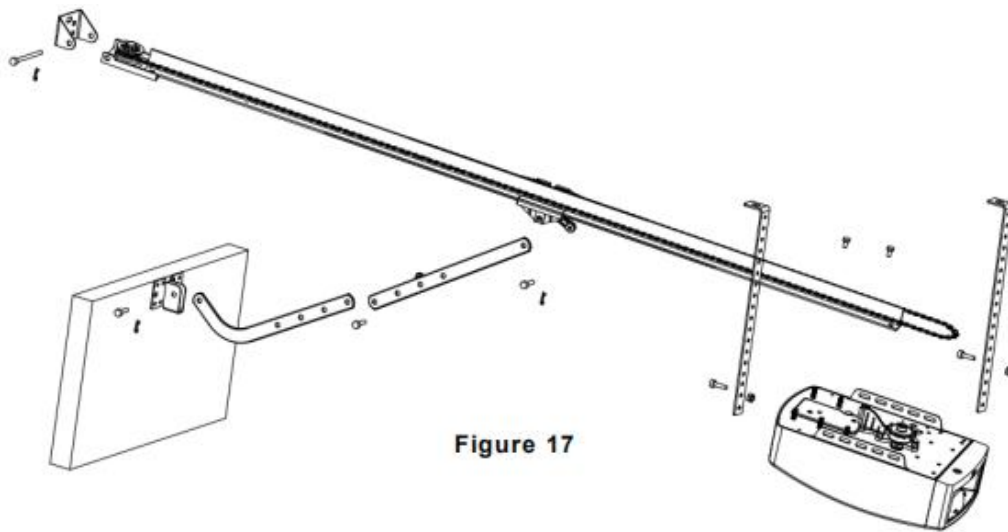
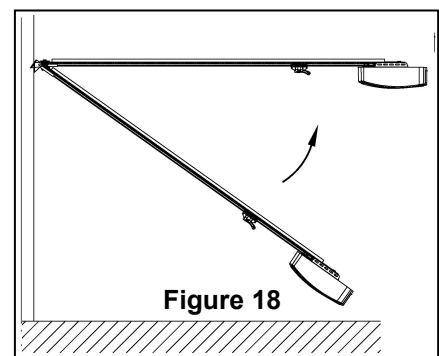

Figure 17
Figure 18
STEP1 (Fig.17)
STEP2 (Fig.17)
STEP3 (Fig.17, Fig.18)
STEP4 (Fig.17, Fig.19)